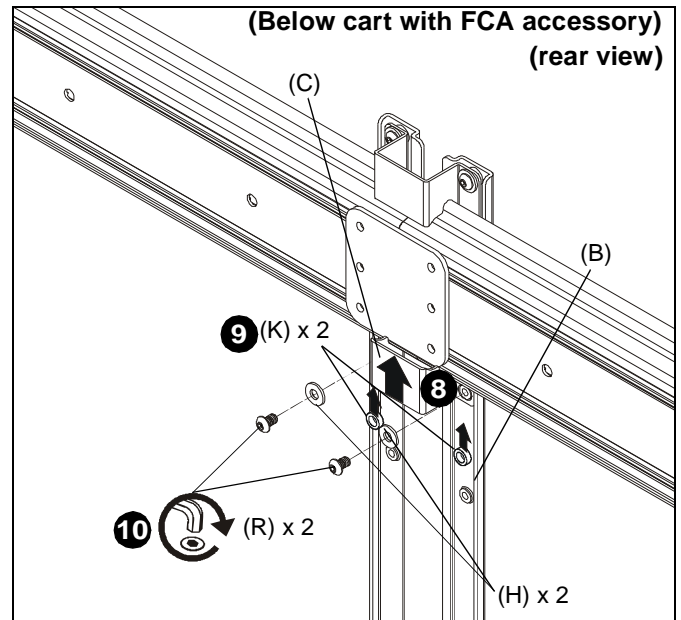

Figure 10
- Slide two 3/5" spacers (K) in between shelf bracket (C) and main bracket (B). (See Figure 10)
- Use two 1/4-20 x 7/16" button head cap screws (R) and two large washers (H) to secure shelf bracket (C) to main bracket (B). (See Figure 10)
- Slide second shelf bracket (C) underneath head assembly, lining up holes on shelf bracket (C) to holes on main bracket (B). (See Figure 10)